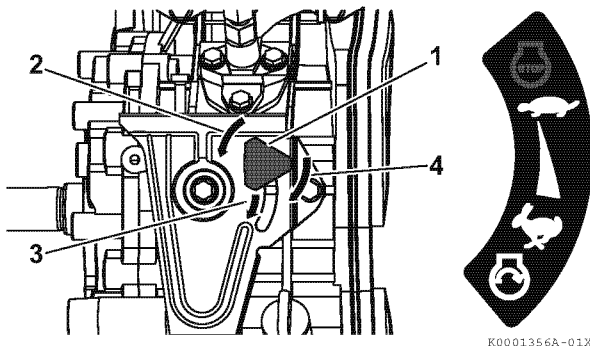

Figure 13
3. If your engine speed control is similar to **Figure 13**:
- 1- Turn the engine speed control knob (1, **Figure 13**) to the left (2, **Figure 13**).
- 2- Slide the engine speed control knob to the START position (3, **Figure 13**).
- 3- Turn the engine speed control knob to the right (4, **Figure 13**) to tighten it.